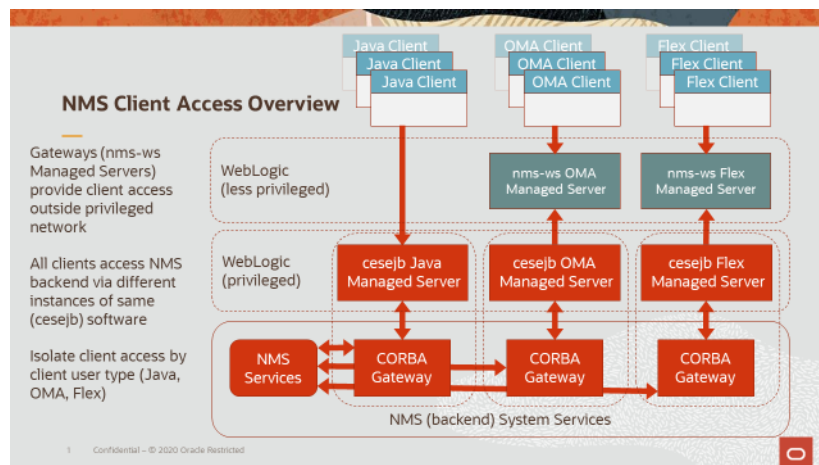

Figure 1 - NMS Client Access Overview
- An example of this type of segmentation is shown in Figure 1 below and is the primary focus of this document.
Note the NMS (backend) System Services tier will always run on the same server - not across multiple servers. This backend tier will either be hosted on a single Symmetrical Multiprocessing (SMP) Unix server such as a single node (at any point in time) of a cluster made up of two or more SMP Unix servers. This tier supports all NMS Services and Gateway related processes shown at the bottom of Figure 1.
The WebLogic tier just above the NMS System Services tier in Figure 1 can run on the same server as NMS System Services or on one or more separate Unix servers. For production NMS instances it is most common for the WebLogic tier to run on separate servers relative to NMS Services.
In Figure 1, we have three “cesejb” Managed Servers just above the NMS System Services tier (one for NMS Java users, one for NMS Flex users and one for NMS OMA users). These Managed Servers can all be in one WebLogic domain or in separate domains.